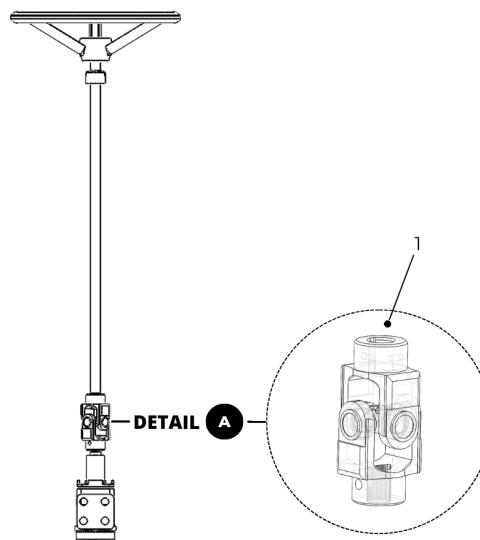

Figure 31. Universal Joint Inspection (Stand-Up Version).
1. Inspect the universal joint (1) and the four tie rods ends (2) for (See Figures 31, 32 and 33):
Lubricate the grease fittings of the following components (See Figures 31, 32 and 33) :